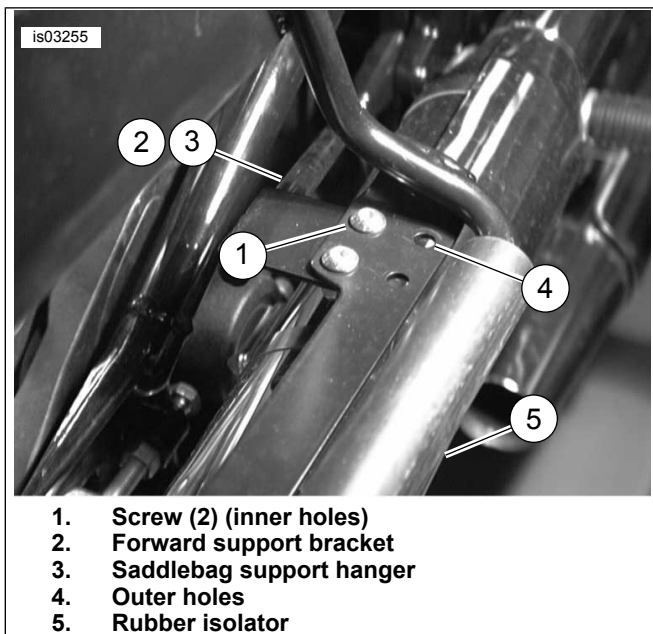

Figure 11. Install Forward Support Bracket to Saddlebag Support Hanger
See Figure 11. If docking hardware is installed, use the inner two holes (1) to mount the forward support bracket (2) to the saddlebag support hanger (3). If docking hardware is not installed, use the outer two holes (4).